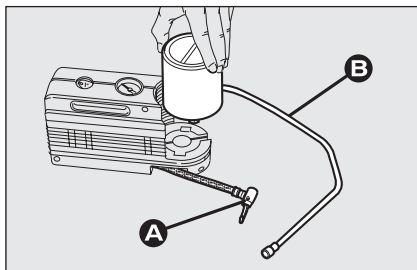

fig. 9
- disconnect connection **A**-fig. 9;